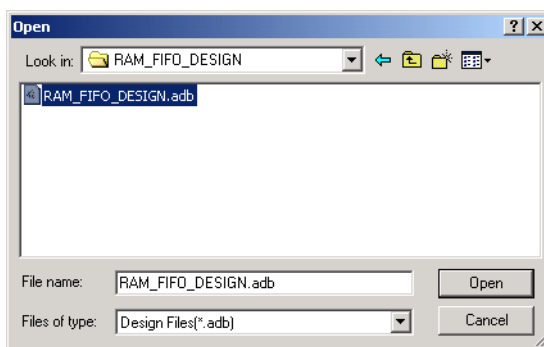

Figure 1-3. Open Design Dialog Box
1. **Click the *Open Existing Design* button or in the File menu, click *Open*.** This displays the Open dialog box (Figure 1-3).